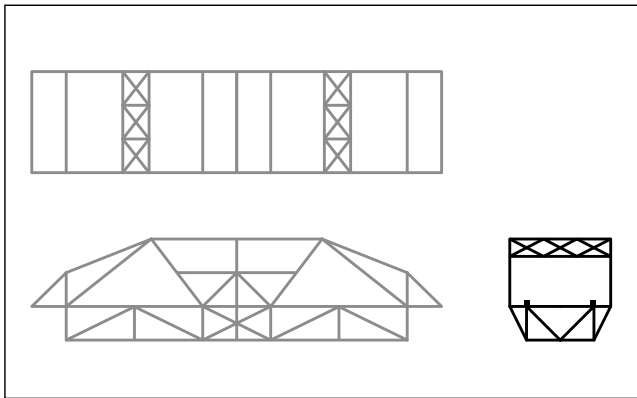

Figure 14 – Same as Figure 13 but with the end view added to the right of the side view
- Now, draw the end view (Figure 14). This is the view seen if you were in a car approaching the bridge.